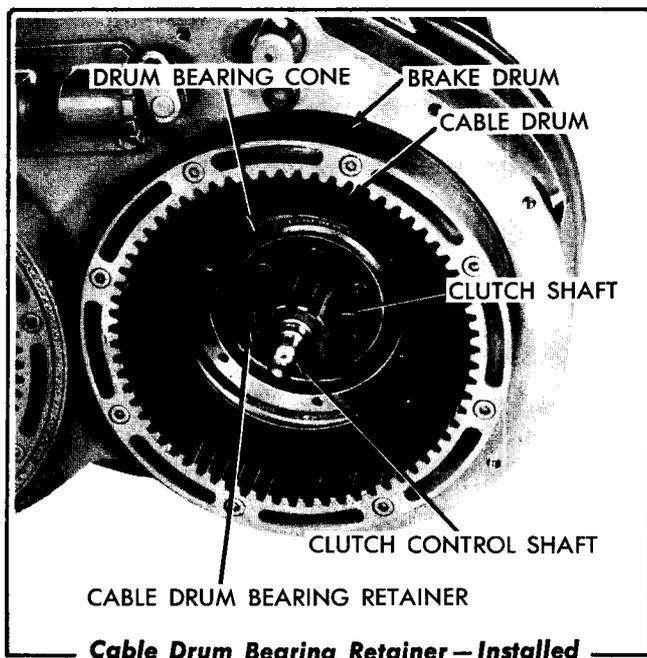

FIG. 27
drum bearing retainer (Fig. 27). Remove the drum bearing retainer and the shims. Tie the shims to the retainer to prevent loss.
7. Remove the 6 retainer capscrews from each drum bearing retainer (Fig. 27). Remove each drum bearing retainer and shims. Tie the shims to their respective retainer to prevent loss.